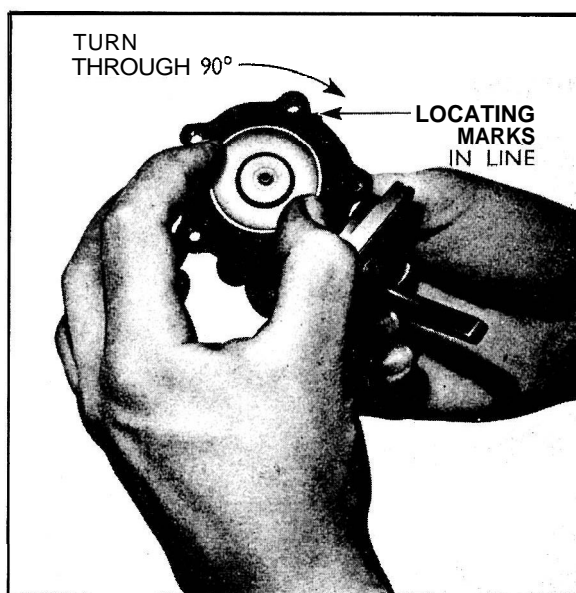

Fig. 36.
5. Assemble the spring, oil seal washer and oil seal to the diaphragm pull rod, taking care to avoid damaging the seal. Insert the end of the rod in the slotted end of the **link**, engaging the groove in the pull rod end by turning the diaphragm a quarter of a turn (see Fig. 36), so that the small tab on the diaphragm aligns with the mating mark on the lower body flange.